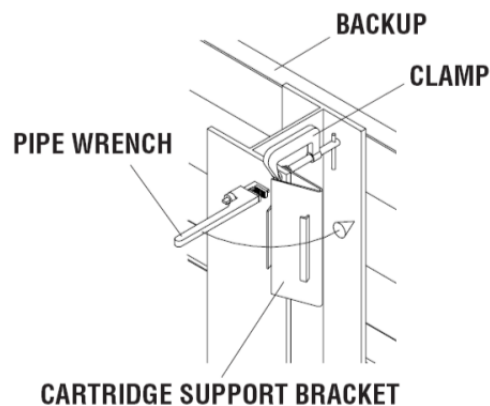

Figure 74
- b. Clamp Cartridge Support Bracket to Backup and begin bending using pipe wrench as shown in Figure 74.